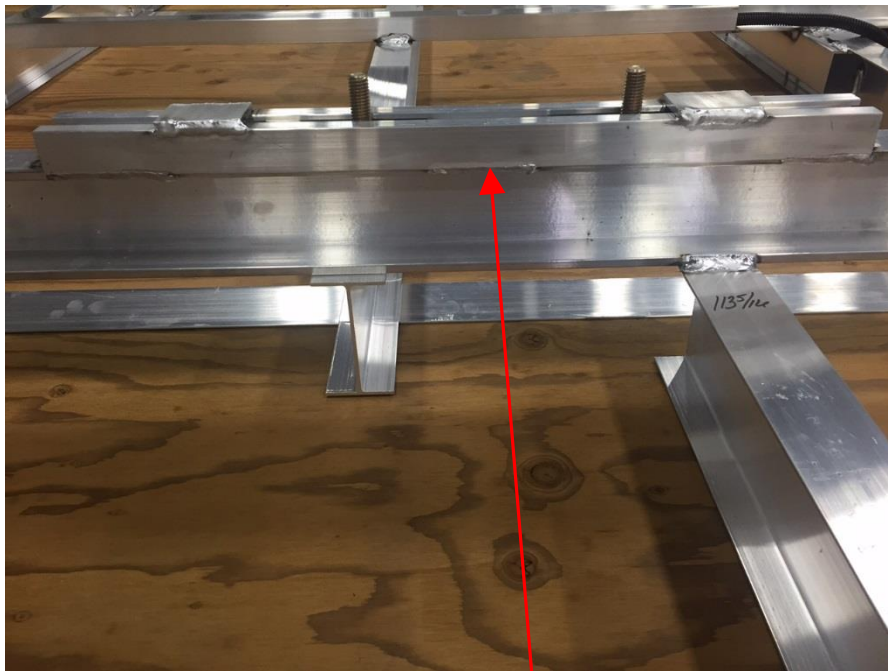

Figure 3
- 3.0 Inspect inside weld joint of axle mounts and U-channels for misalignment of weld or any cracks in welds. See Figure 1. If any defects are present proceed to inspecting axle mount outside welds and verify that there are no signs of base material damage. Repair all suspect welds using step 6. See Figures 3 and 4.